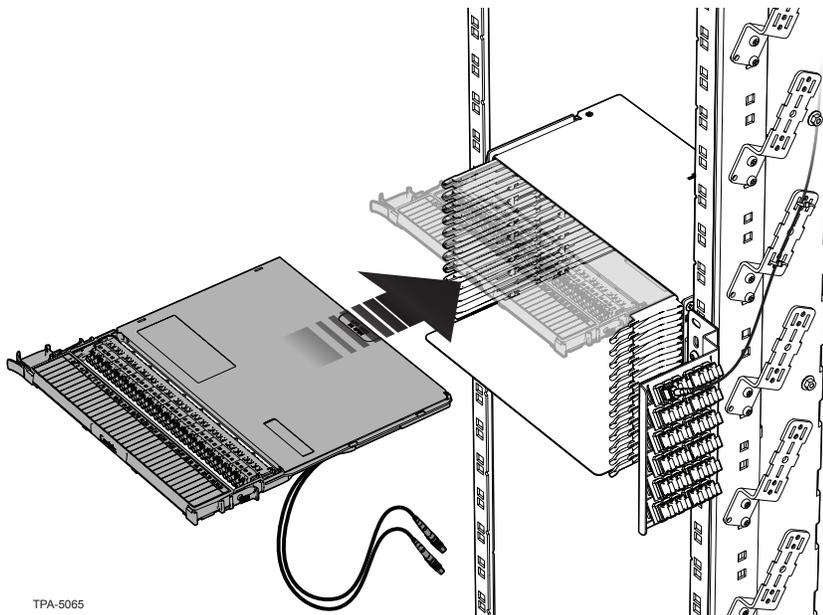

Figure 10
- Step 7:** Insert cassettes into the housing, starting at the top of the housing (Figure 10).